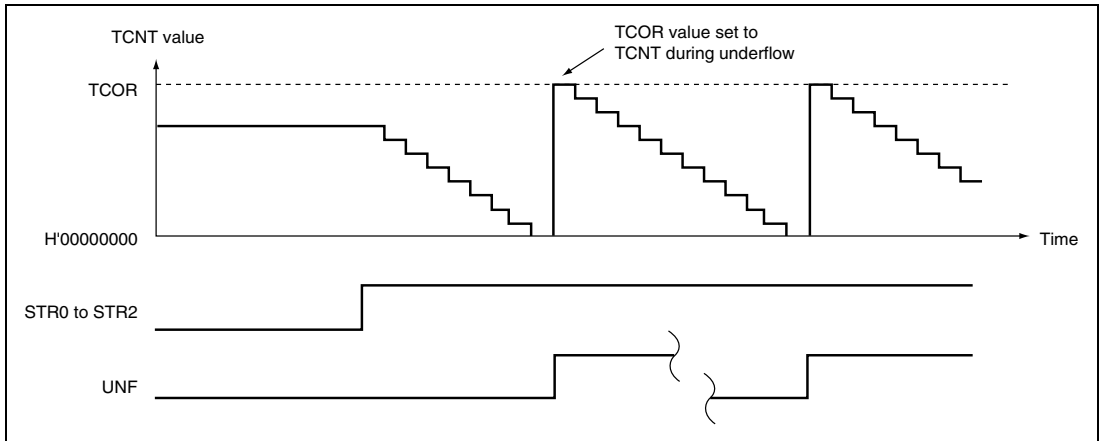

**Figure 12.3 Auto-Reload Count Operation**
- **Auto-Reload Count Operation:** Figure 12.3 shows the TCNT auto-reload operation.